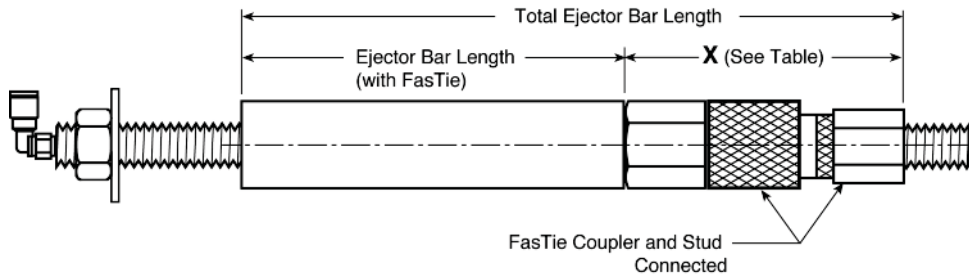

Figure 2
- Result is new FasTie® ejector bar length (Figure 2)